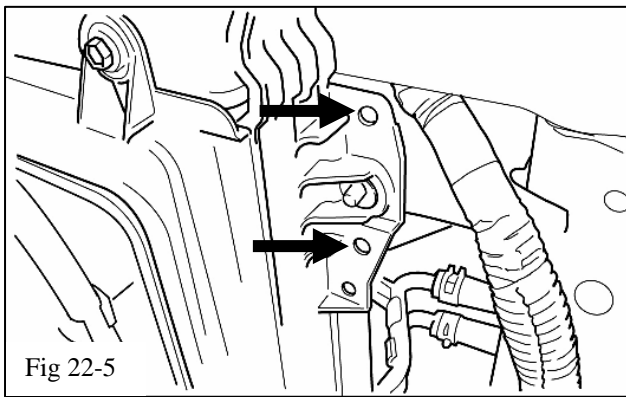

Fig 22-5
- (f) The intercooler reservoir mounting bracket (A1) mounts to the upper RH corner of the vehicle radiator (Fig 22-5) using 2 existing holes.